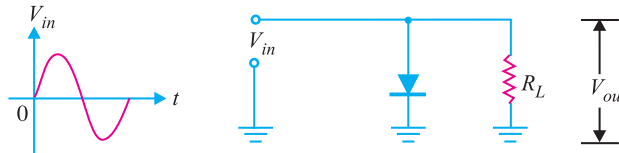

Fig. 18.34
**Solution.** The purpose of series resistance  $R$  is to protect the diode from damage. Let us explain this point. Suppose the series resistance  $R$  is not in the circuit. The circuit then becomes as shown in Fig. 18.34.